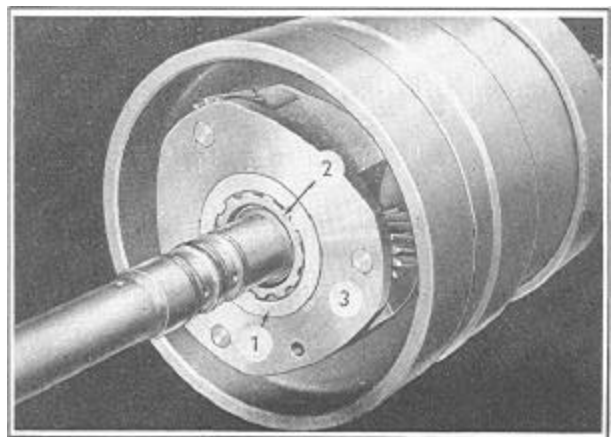

FIGURE 94
3. Remove the front ring gear thrust washer (1), Figure 94, from the front face of the front planetary carrier (3).